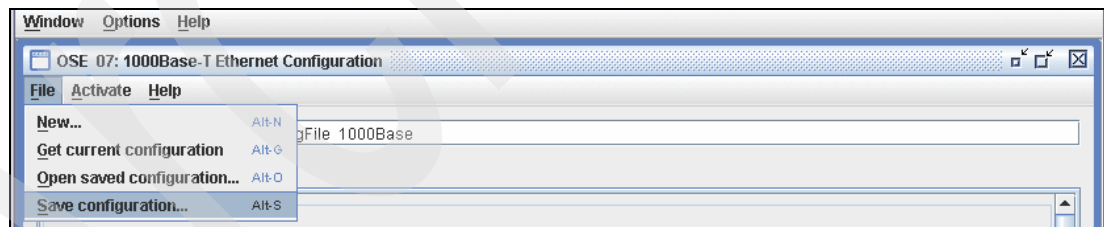

Figure 3-20 OSA/SF Workstation Interface - Save current configuration
- Click **File** → **Save configuration...** (Figure 3-20). The configuration file is saved by OSA/SF and can be reused later.